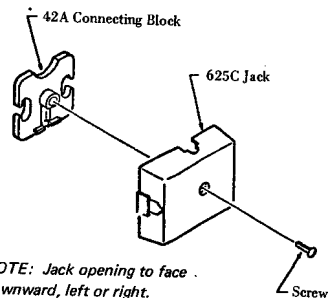

FIGURE 12. Conversion of 42A Connecting Block Using 625C Jack
(2) Inside wiring is routed through the desired slot and connected to the appropriate terminals.
(3) The NT-625QA4 cover has knockouts to permit alternate wiring entries. The cover snaps over the jack base. To remove cover, insert a screwdriver in the slot on either side of the rear wire entry hole and twist screwdriver.
(4) The cover of the 625A (625C) is secured by a center screw.
b. The 625C is to convert existing 42A connecting blocks to accept plug-ended mounting cords. Remove the cover from the 42A block. Connect the leads from the 625C jack to the matching colors designated on the 42A block. Mount the jack on the connecting block with the screw provided. See Figure 12.